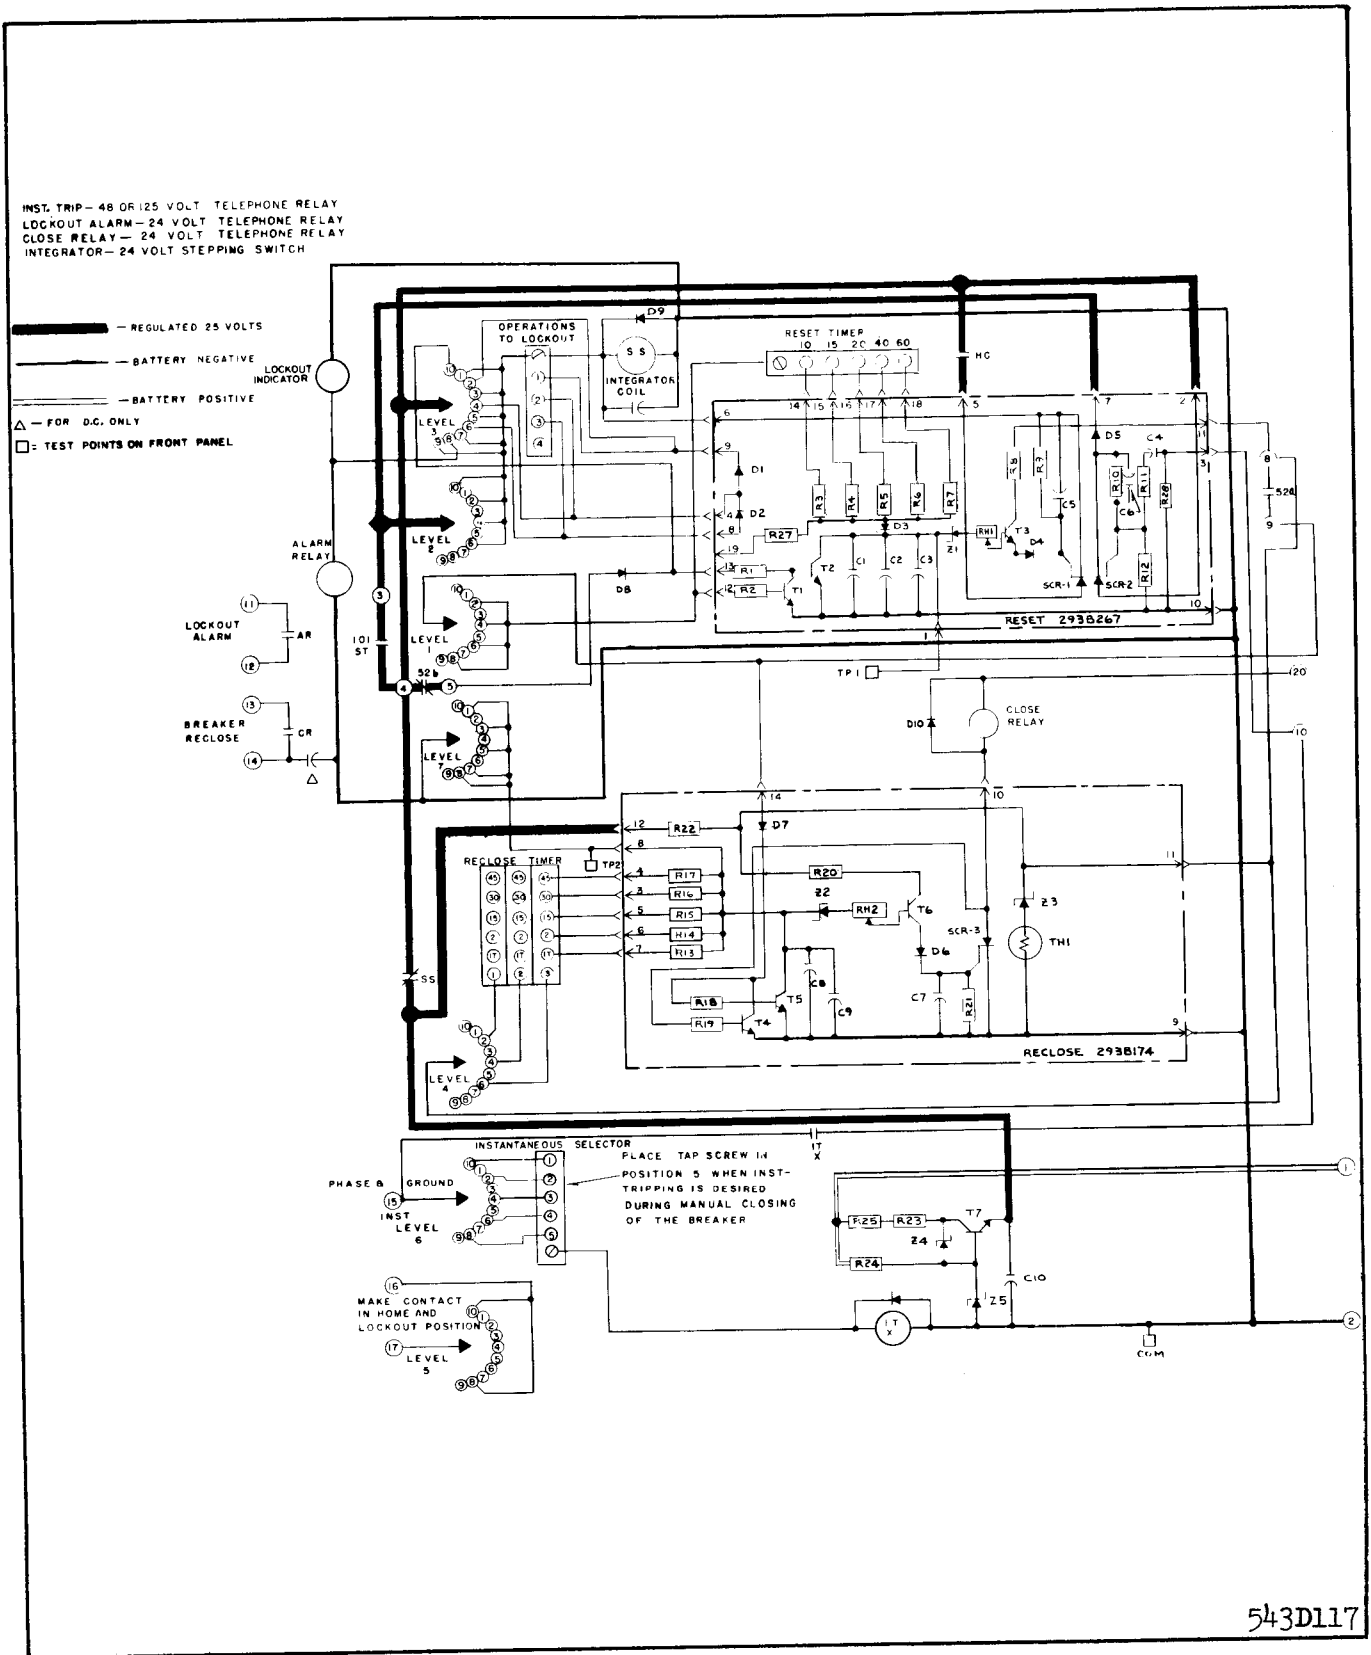

Fig. 3 Internal schematic of the type DRC relay.
Operation of the DRC relay will be described with the aid of Figures 3 and 6. We will assume that the DRC relay is set for two instantaneous and two time delayed operations and that a permanent fault occurs on the line being protected.
When the trip coil was placed across the station battery, a positive pulse was fed to terminal 10, to pin 3 on board 293B267 of figure 3 and then to the gate of SCR-2 of that board. This pulse turns SCR-2 on and places the regulated voltage across the integrator coil through the normally closed integrator contacts (SS) and level 2 of the integrator. As the armature of the integrator picks up, the normally closed contacts of the integrator (SS) open, stopping current flow, shutting off SCR-2. The integrator armature compresses a spring when the coil is energized.
When the breaker has closed, terminal 9 goes highly positive and base current is applied to transistor T₅ discharging the time delay capacitors (C₈, C₉) on the reclose timer (board 293B174 on fig. 3), thus setting it up for the next reclosing interval.
The reset timer (board 293B267 on fig. 3) was energized through step 2, the take-off arm of level 1 and the RESET TIMER tap block. The time delay capacitors (C₁ to C₃) were kept inoperative by terminal 5 being highly positive and supplying base drive for transistor T₂. This kept the time delay capacitors short-circuited. With the breaker closed and base drive removed from transistor T₂, the time delay capacitors will start to charge up and attempt to turn on SCR-1 and reset the integrator to its home position (step 10). Device 50 will trip open the breaker before the reset timer sends a signal to SCR-1 to reset the integrator.
Close the breaker utilizing the 101 switch, the reset timer will attempt to time out and reset the integrator to its home position (step 10). Assuming the fault still exists, the breaker will trip out time delayed unless a tap screw has been placed in the number 5 position of the INSTANTANEOUS SELECTOR tap block (under this condition an instantaneous operation will take place). When the trip coil is placed across the station battery, a positive pulse is again fed to the gate of SCR-2 on board 293B267 of figure 3 through terminal 10 (DRC relay). The cathode of SCR-2 is connected to the integrator coil through the take-off arm of level 2 and steps 10, 2, 4, and 6. With no connection made on step 8, level 2, SCR-2 cannot be turned on as there is no complete path for current to flow, and the integrator remains at step 8 or "lockout."